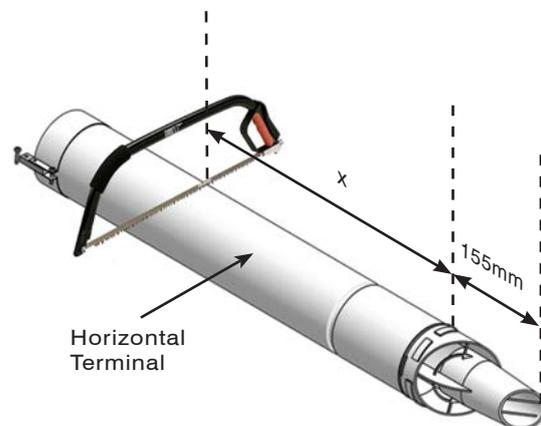

Fig. 3
- 1.9 Mark this dimension on to the horizontal terminal as in Fig. 3